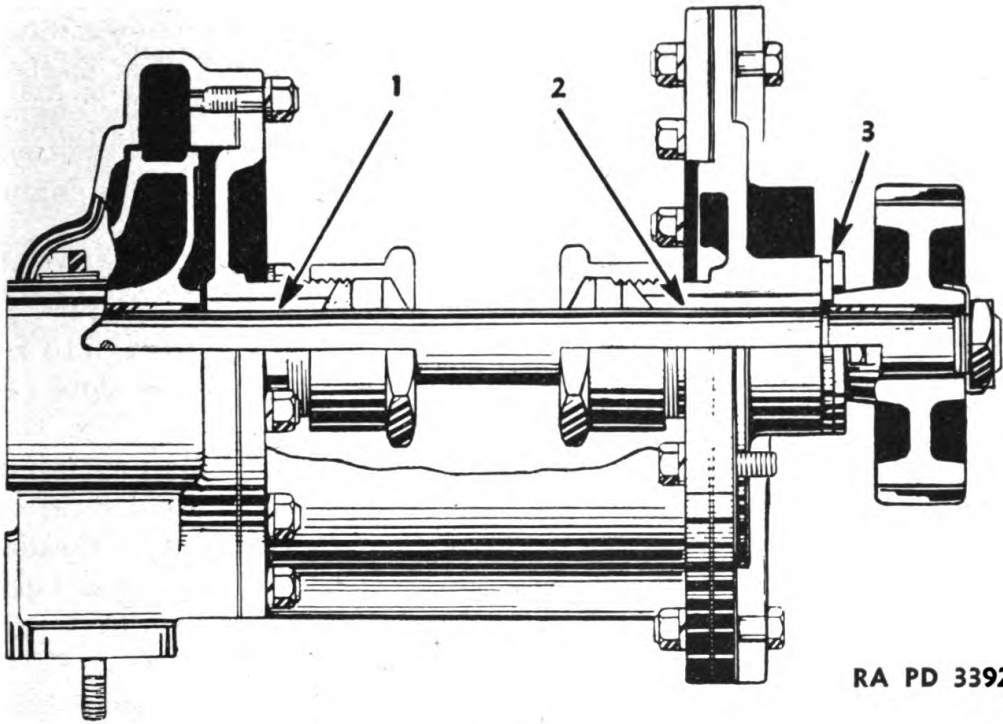

FIGURE 13.—Water pump assembly.
c. Assembly.—If bushings (1) and (2) (fig. 13) become worn, they should be replaced. The drive gear should be installed before the taper pin is placed in the impeller, otherwise the pin might be sheared when pressing the gear on. If the end play in the shaft exceeds .050 inch, thrust plates at (3) should be replaced. Use a letter "C" (.242-inch) drill and a No. 5 taper reamer for installing the taper pin in the impeller. Before tightening the packing, make certain the pump shaft, impeller and gear turn freely.